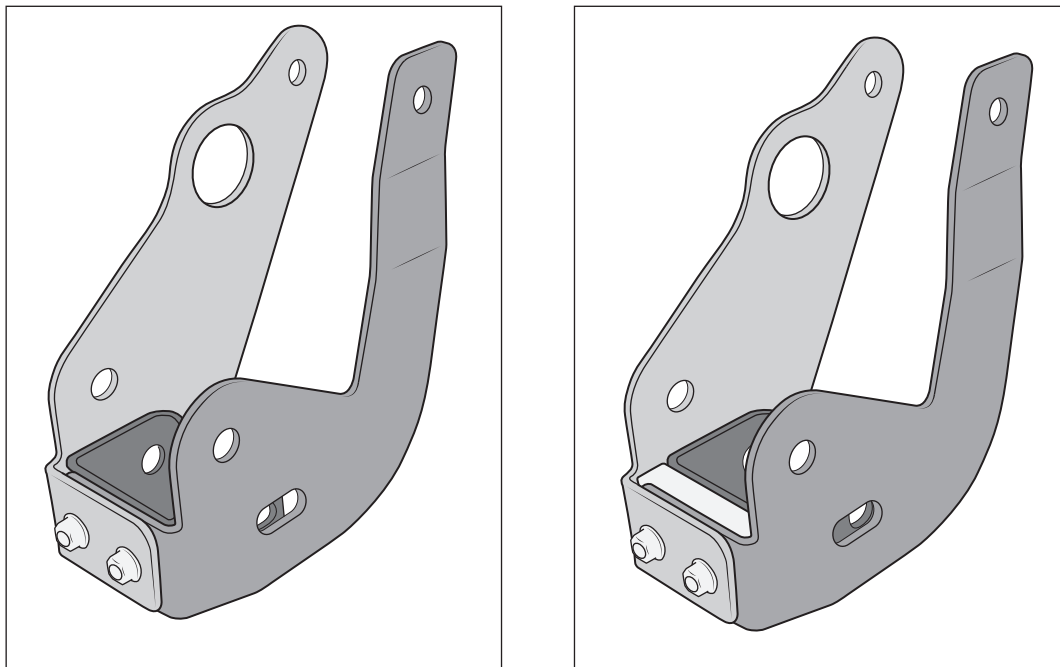

Figure 9 Left: 37" Tires Right: 40" tires
- A. Preassemble the AEV radius arm brackets using M10 x 45 Carriage Bolts, M10 Flat Washers and Nuts (Fig. 9). Note the additional spacer for 40" tire applications.